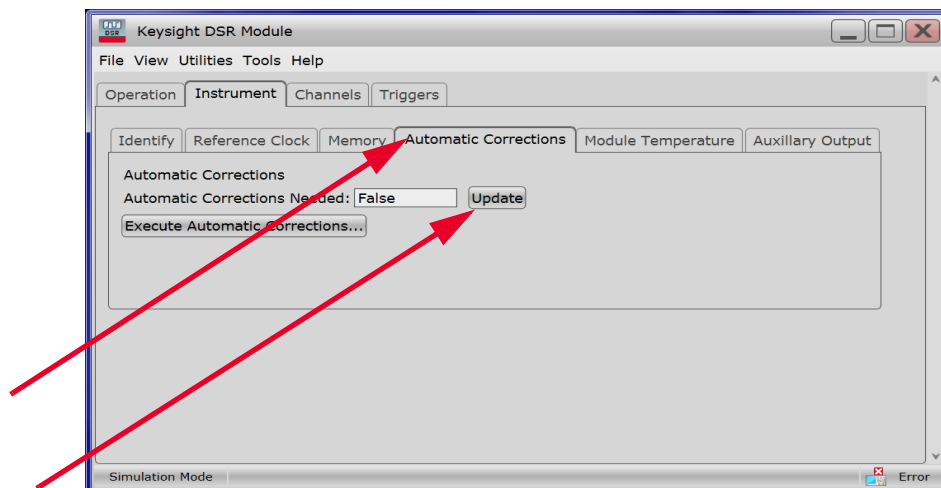

Figure 10 SFP Automatic Corrections tab
- 6 Select the **Automatic Corrections** tab in the second row, as in Figure 10.
- 7 Click the **Update** button in Figure 10; this will update the status of whether Automatic Corrections are required.
Click the **Execute Automatic Corrections...** button in Figure 10.
- Click the **Update** button again (in Figure 10) to update the Automatic Corrections Needed status.